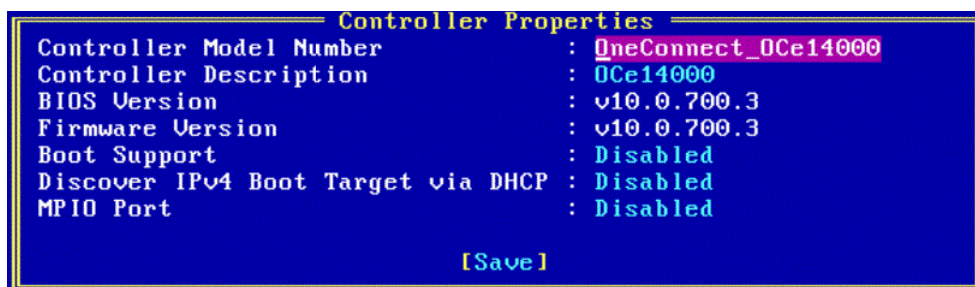

Figure 8-4 Controller Properties Screen
1. From the Controller Properties screen (Figure 8-4), select **Boot Support** and press **<Enter>**. A drop-down menu appears.
1. From the Controller Properties screen (Figure 8-4), select **Discover IPv4 Boot Target via DHCP** and press **<Enter>**. A drop-down menu appears.
1. From the Controller Properties screen (Figure 8-4), select **MPIO Port** and press **<Enter>**. A drop-down menu appears.